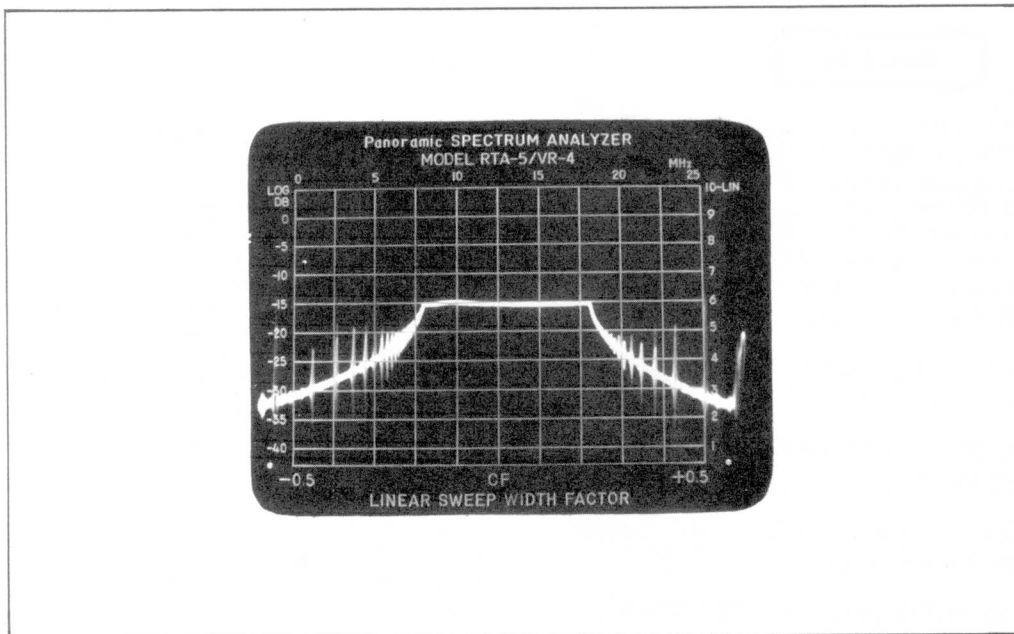

Figure 2-7. Signal Display in Search/Lock Mode.
- z. Adjust the SEARCH/LOCK thumb-wheel control (to the right of the CENTER FREQUENCY thumb-wheel control) so that signal of interest is peaked. Such a peaked display is shown in figure 2-7.